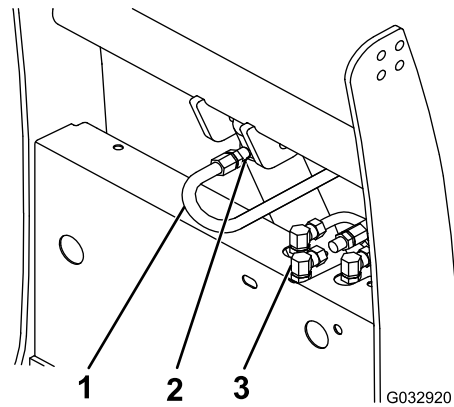

Figure 8
5. Remove the plug on the upper fitting on the lift cylinder (Figure 8).
6. Using thread compound, install the 39 cm (15-1/2 inch) hydraulic hose to the upper fitting on the lift cylinder (Figure 8). Turn the fitting until it is finger tight, then turn it 2 to 3 more times.
7. Creating an “S” shape with the hose, connect the free end of the hydraulic hose to the rear fitting on the hydraulic shelf (Figure 8). Turn the fitting until it is finger tight, then turn it 2 to 3 more times.